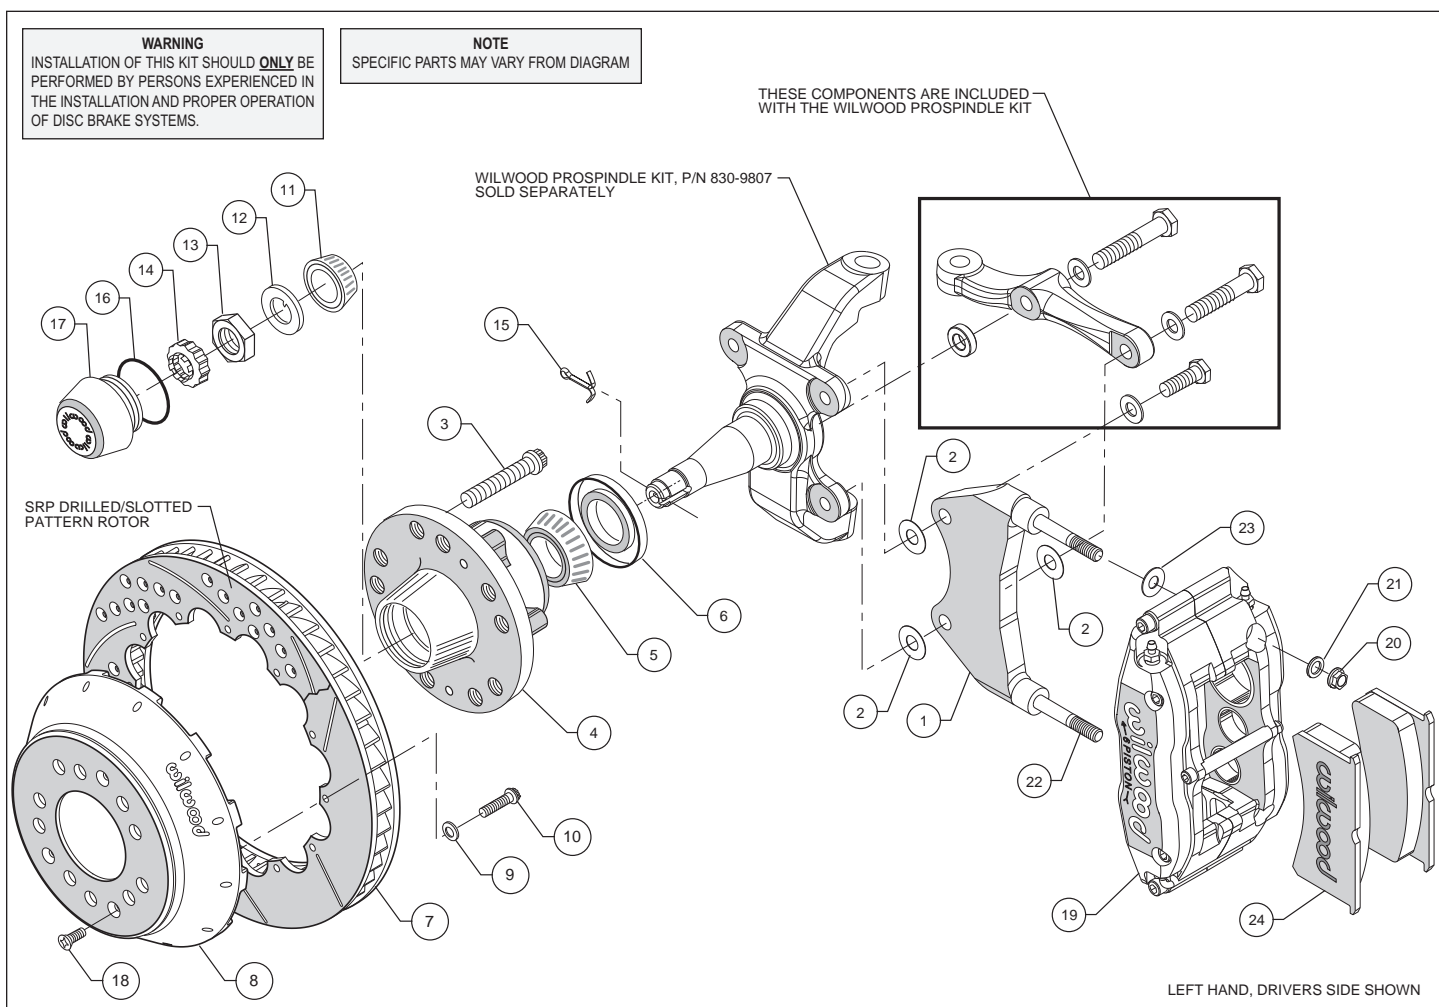
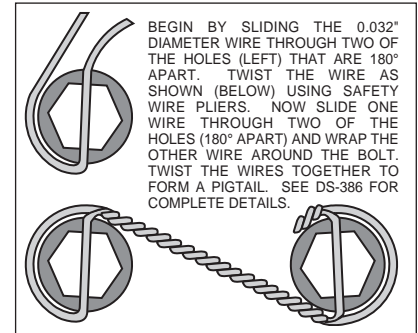

Figure 1. Typical Installation Configuration
Figure 3. Safety Wire Diagram
- Install wheel studs (3) into the hub (4). Torque to 77 ft-lb. **NOTE:** There are two lug patterns of five holes each in the hub (5 x 4.50 and 5 x 4.75). Make sure of the correct hole pattern for the wheel application before installing the studs into the hub.
- With the larger I.D. side of the rotor (7) facing away from the hat (8), bolt the rotor (7) to the hat (8) through the backside of the rotor using washers (9) and bolts (10) provided in the configuration pictured in figure 1. Be sure all bolts thread in smoothly and are snug. Then, torque all bolts in an alternating sequence to 85 **in-lbs**. Safety wire bolts (10) using standard 0.032 inch diameter stainless steel safety wire as shown in Figure 3. Please refer to Wilwood's data sheet DS-386 (available at www.wilwood.com/pdf/ds386.pdf) for complete safety wire installation instructions.